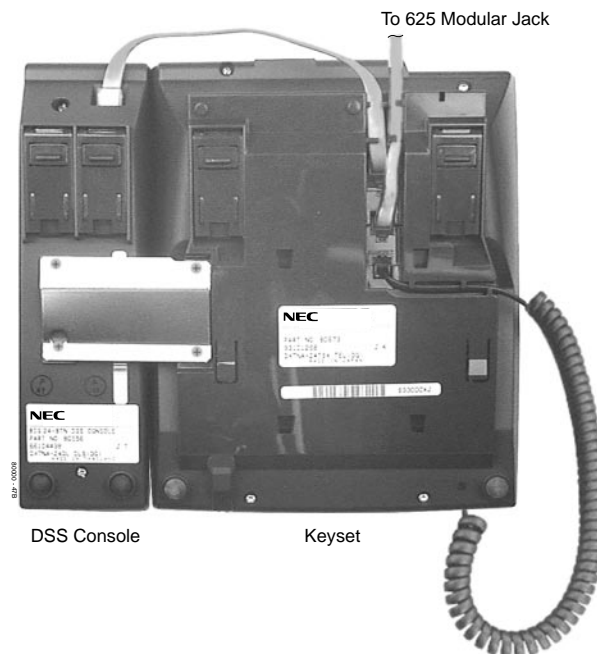
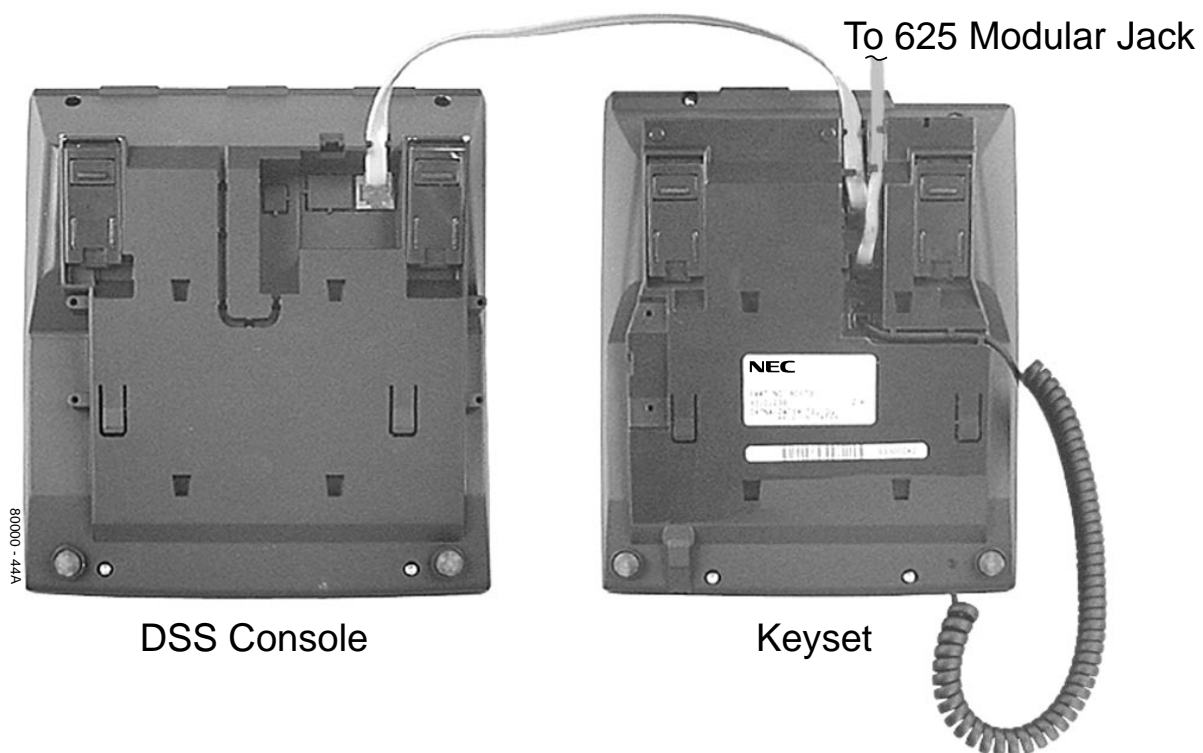

Figure 4-6: Installing a 24-Button DSS Console
Figure 4-7: Installing a 110-Button DSS Console
To install a DSS Console (Figure 4-7) (Figure 4-6):
4. If you have a 24-Button DSS Console, attach the metal plate to both the DSS Console and telephone. See Figure 4-6 *Installing a 24-Button DSS Console* on page 4-9 for more.